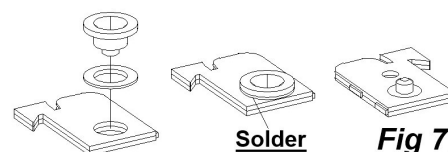

Fig 7
Insert a waisted bearing in the plate from the plain side (with no recessed hole), and with a 0.15mm half etched spacing washer (7) (Fig 7). This ensures that only the 1mm diameter pip protrudes beyond the bearing plate surface. Place the mounting plate on your soldering board, with a small (1.5-2mm dia x 1.5mm deep) predrilled hole to allow the bearing to seat fully home. Use a small probe, such as the end of a needle file, to hold the bearing in place and prevent any risk of the plate lamination opening up. Apply flux and apply solder sparingly to the edge of the flange to secure.